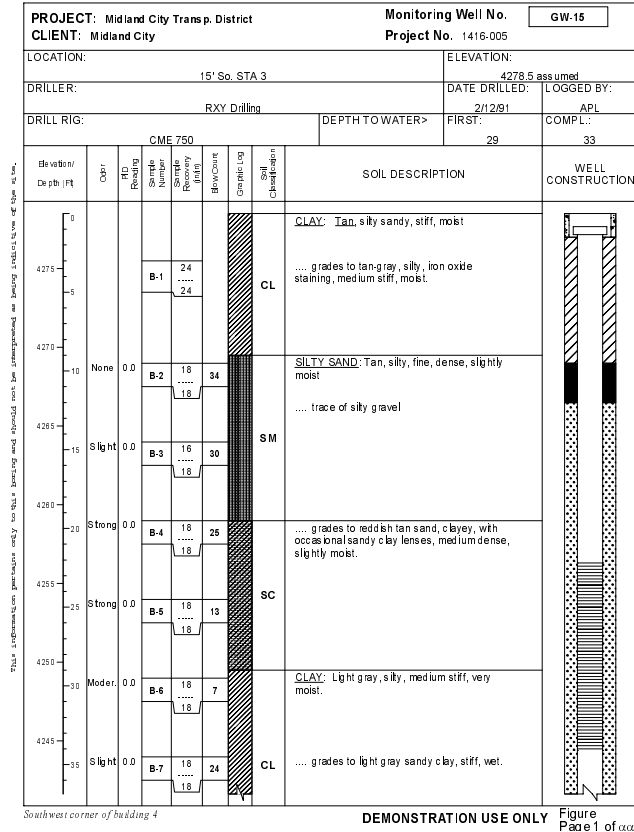

Figure 4.67 -- Example Monitoring Well Report
- LD4 can include a "continue" symbol at the bottom of the well schematic if the well will be continued onto the next page (you can see an example at the bottom of the well section in Figure 4.67). To include the symbol, make sure that the **"Continue" symbol at the top and bottom of multi-page wells** option is selection.